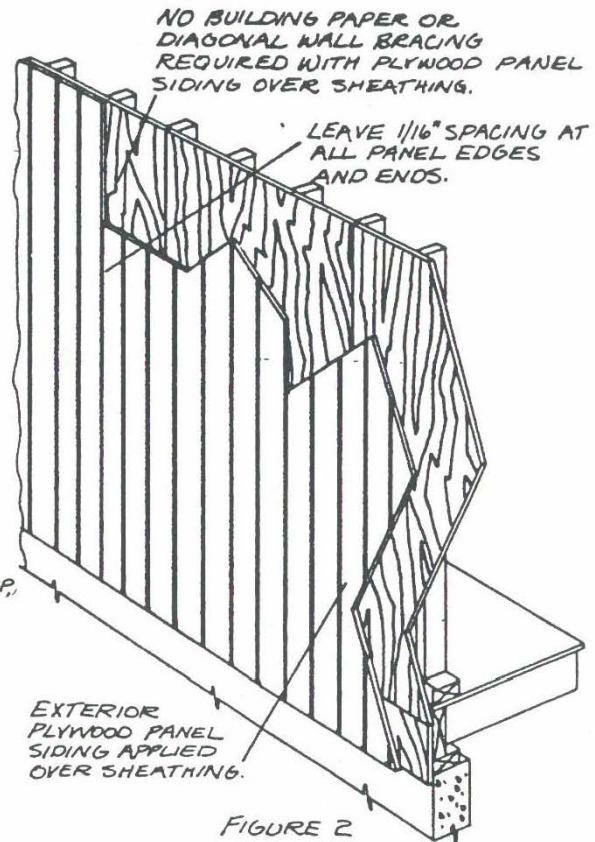

FIGURE 2
9. Apply plywood siding to sheathed walls (Figure 2). Texture 1-11, 3/8 in. o.c. sidings, and other Exterior panels under 7/16 in. thick may be applied with face grain parallel to studs 16 in. o.c. Any Exterior panel may be used over studs 24 in. o.c. if face grain is across studs (subject to your preference on finishing and appearance). Use hot-dipped galvanized, aluminum or other nonstaining nails to prevent staining of the siding from nail weathering and rusting. Use 6d box, siding, or casing nails for plywood siding 1/2 in. or less thick; use 8d nails for thicker panels. Drive nails every 6 in. along panel ends and edges, every 12 in. at intermediate supports. Nails through battens must penetrate studs at least 1 in. or be driven through the plywood sheathing if the joint does not occur over a stud.